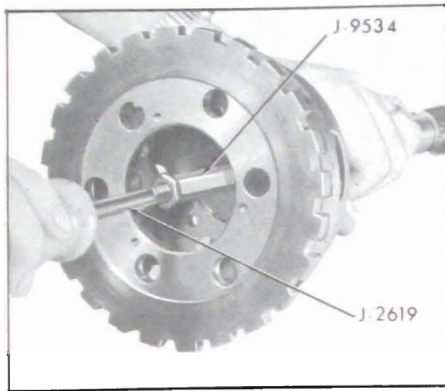

Figure 5-257
13. Check output shaft bushing for nicks, severe scoring or wear. If bushing replacement is necessary continue as follows: Install Bushing Remover J-9534 into bushing. Install Slide Hammer J-2619 into J-9534, using slide hammer remove bushing from planet carrier. See Figure 5-257.